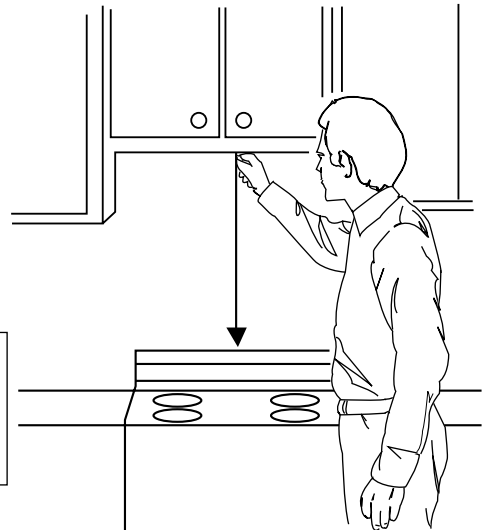

Figure 21
1. Using a plumb line and (metal) measuring tape, find and mark the vertical center line on the back wall, as in Figure 21.
**NOTE:** Be sure the minimum width is 30 inches and the distance from the top of the wall template to the range or counter top is at least 30 inches. See Figure 21.